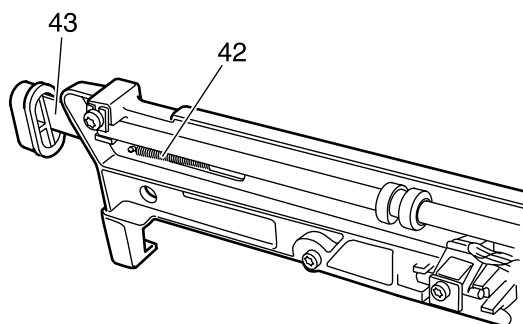

**Fig. 20**
12. Remove the spring 42 of the release lever 43 (Fig. 20).